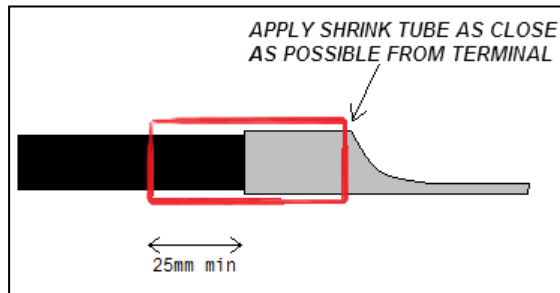

Figure 11
- B3. Unfasten positive terminal block fixing nut. (8, Fig. 11) remove booster block and discard.
- B11. Insert well nut (4) #500678 in protective box lower right mounting hole. (Fig 11, 13) If using the original bracket, remove rivet in this location.
- B13. Insert booster block #561856 through support hole, slide foam sealing washer (5) #382444 over and then protective box (1) #382441 making sure drip hole is at the bottom. Fasten fixing nut of booster block terminal (Refer to figure 11).
B14. Secure protective box ① to support using round head machine screw ② #5001305, flat washer ③ #5001137. (Fig. 11 & 13).